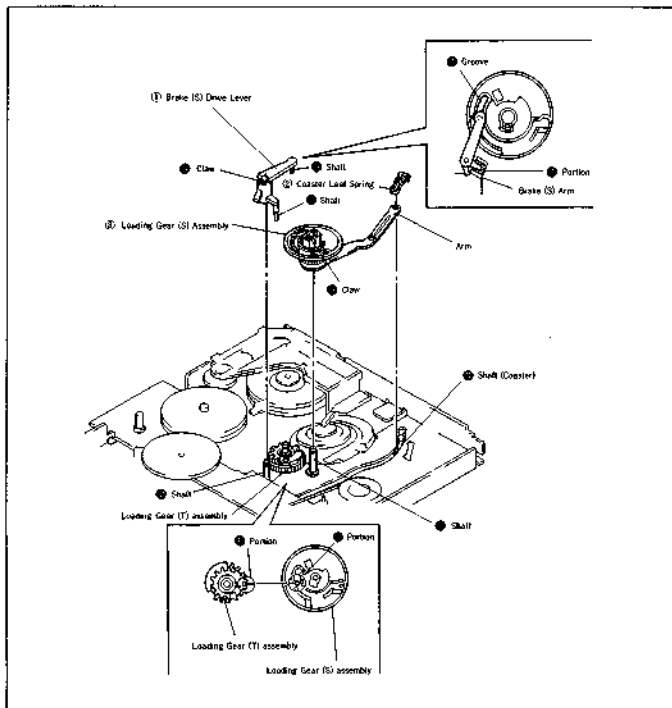

Fig. 24
#### 4-16. LOADING GEAR (S) ASSEMBLY (Fig. 24)